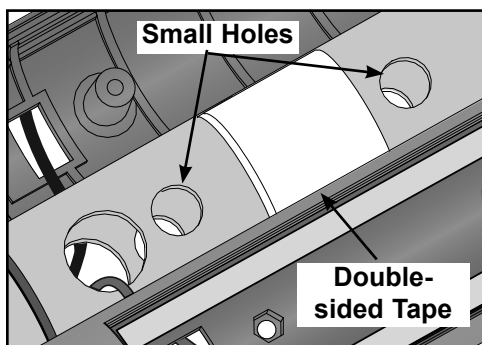

Figure 35
- A. Remove the protective paper from the loose pieces double-sided tape and stick each one between two small holes in the handrail. See Figure 35.